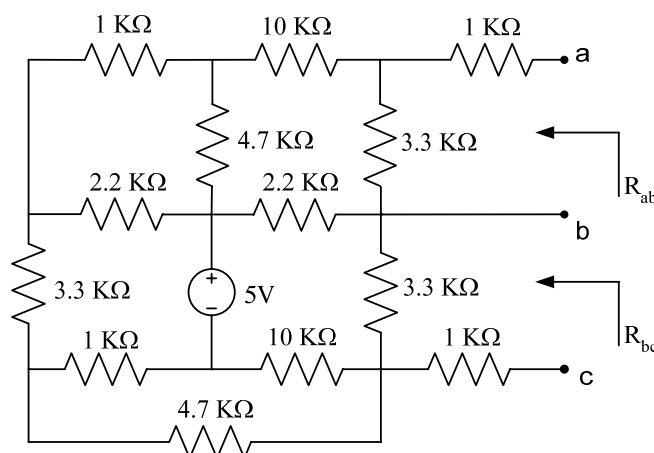
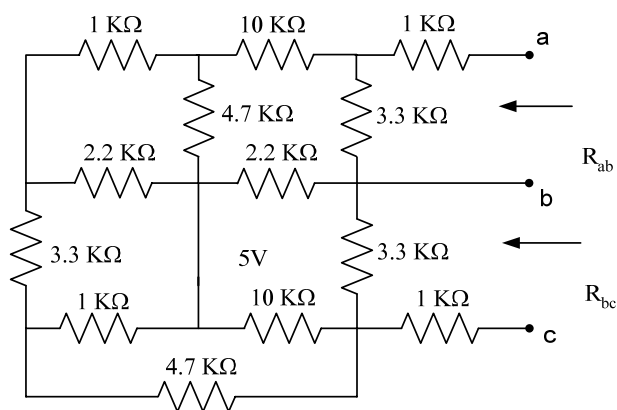

Figure 7.1: Resistance measurement
Figure 7.2: Resistance measurement using ohmmeter method
Connect the circuit given in Figure 7.1. Then measure the equivalent resistance looking through terminals a-b (R_{ab}) and also the equivalent resistance looking through terminals b-c (R_{bc}). For this purpose, different methods will be used as described below:
2. Next we have to replace all the independent sources by their internal resistance. The resistance of an ideal voltage source is zero and the resistance of an ideal current source is infinite. So, the 5V voltage source in the circuit of Figure 7.1 should be removed completely and replaced by a short circuit (zero ohms). This will result in the circuit of Figure 7.2.
1. This method is an indirect approach of the above method. For this purpose, deactivate the 5V supply of Figure 7.1 as before and replace it with a short circuit.
deactivating the sources as in circuits containing dependent sources or electronic devices. Reconnect the circuit of Figure 7.1.
1. This method also uses the principle of Thevenin's theorem and can be applied without removing any source from the original circuit. For this purpose, first measure the open-circuit voltage V_{OC} across terminals a and b of Figure 7.1.